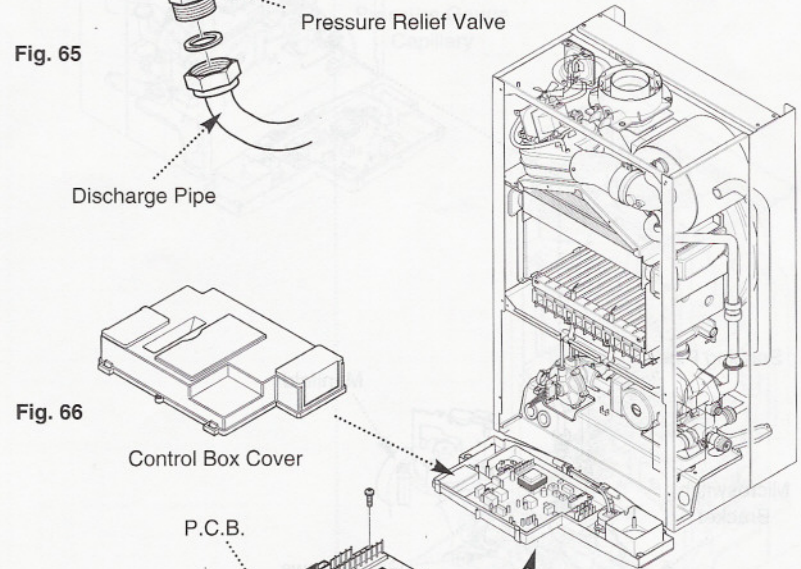

Fig. 66
2. Completely undo the screws securing the control box cover and release the cover retaining barbs from their slots. Disengage the rear of the cover from the control box hinge pin (Fig. 66).